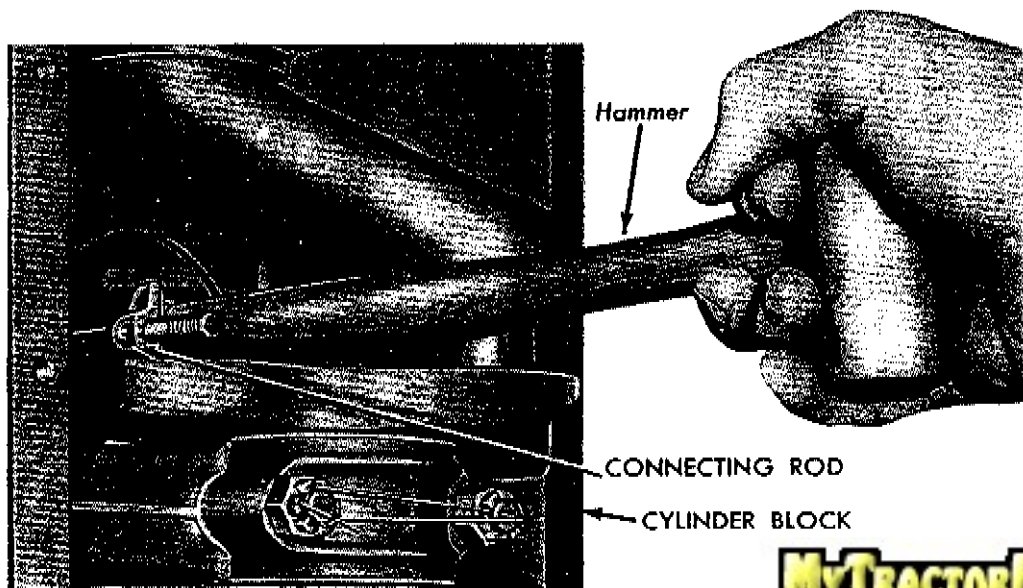

Fig. 7—Removing Connecting Rod and Piston
h. Remove Connecting Rod and Piston Assemblies. Remove the two nuts from No. 1 connecting rod. Lift the connecting rod bearing cap from the connecting rod. Tap the connecting rod and piston out of the cylinder block with the handle end of a hammer (fig. 7). Install the connecting rod bearing cap on the connecting rod to prevent the bearing inserts from becoming mixed. Repeat the above procedure to remove the remaining connecting rod and piston assemblies.
i. **Remove Crankshaft.** Remove the lock wire and castellated nuts or self-locking nuts from the main bearing caps (fig. 7), and remove the bearing caps. Lift the crankshaft from the cylinder block.